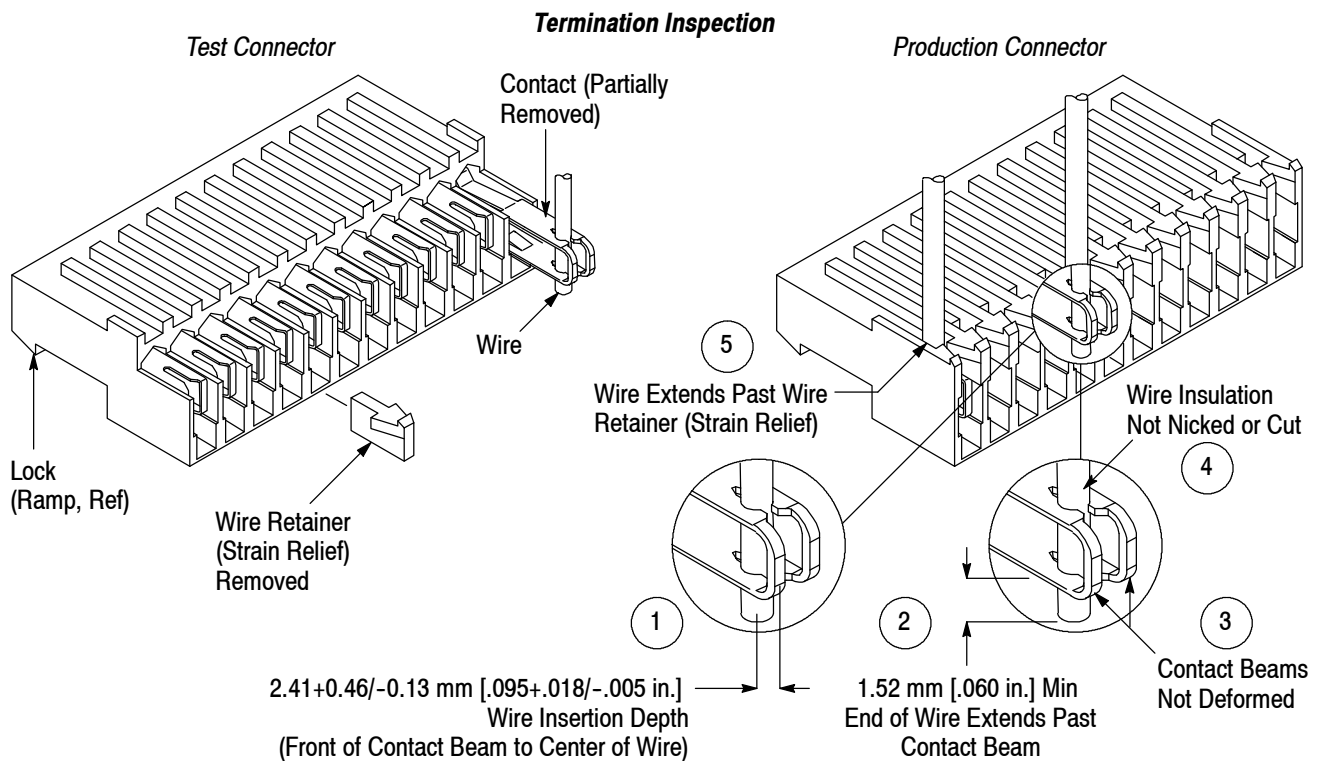

Figure 3
2. Using a small knife, cut off the wire retainers (strain relief) of the connector. This will provide a clear view for inspecting the connector for a properly terminated wire in the contact. See Figure 3.
5. Check that the wire insertion depth is within the dimension given in Figure 3.
NOTE To obtain the wire insertion depth, measure from the front of the contact beam to the center of the wire as shown in Figure 3 - or - measure from the front of the contact beam to the back of the wire and subtract the wire diameter divided by 2.
3.2. Termination Inspection (Refer to Figure 3)
1 — The required wire insertion depth is within the dimension given in Figure 3 (refer to Step 5 of Paragraph 3.1 for measurement).